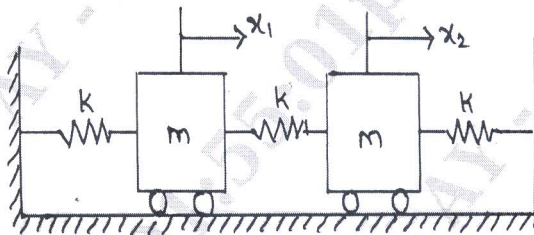

Fig Q7(a)
- 7 a. For the system shown in Fig Q7(a).